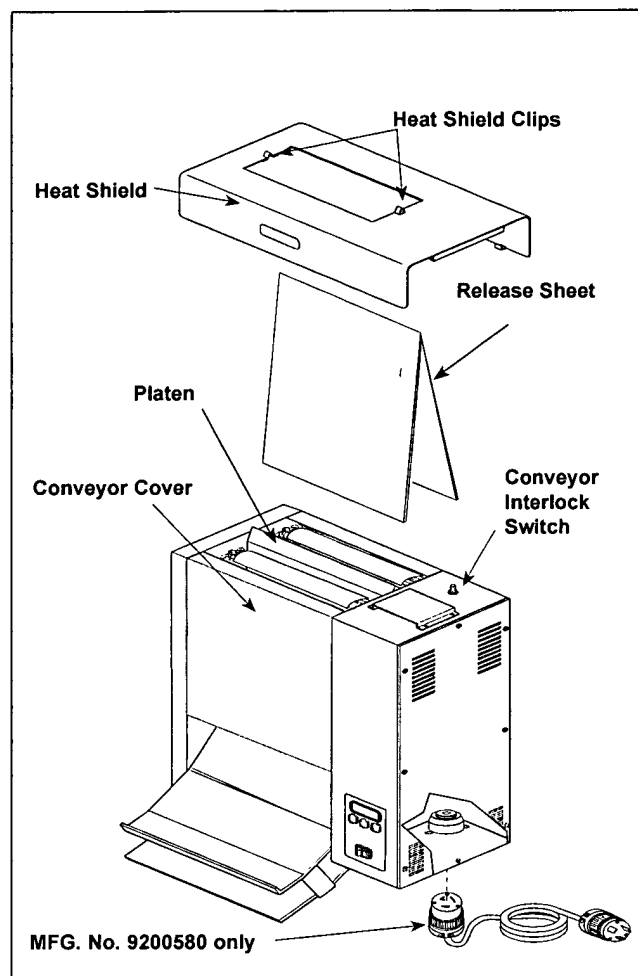

Figure 3. Installing Release Sheet
4. Install the release sheet by draping it over both sides of the platen surface. The crease should be centered directly on top of the platen (Figure 3).
5. Install the heat shield. The heat shield clips fit over the top of the platen securing the release sheet (Figure 3).
IMPORTANT: Make sure heat shield assy. is activating (depressing) the conveyor interlock switch (see Figure 3). The conveyors will not rotate unless the heat shield is in place and interlock switch is activated (depressed).